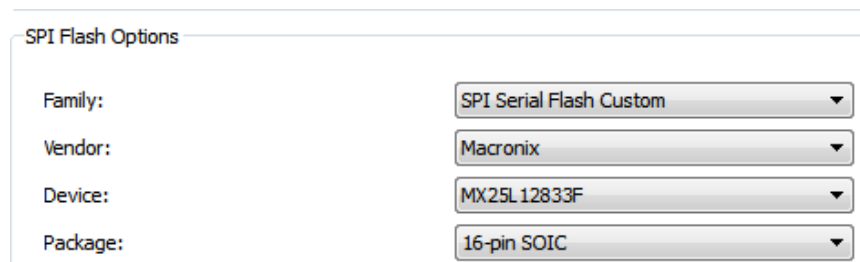

Figure 3.4. SPI Flash Options
6. From the pop-up **Device Properties** dialog, choose **SPI Serial Flash Custom** from the **Family:** field of the **SPI Flash Options** area (as shown in Figure 3.4). You can find the custom device added.